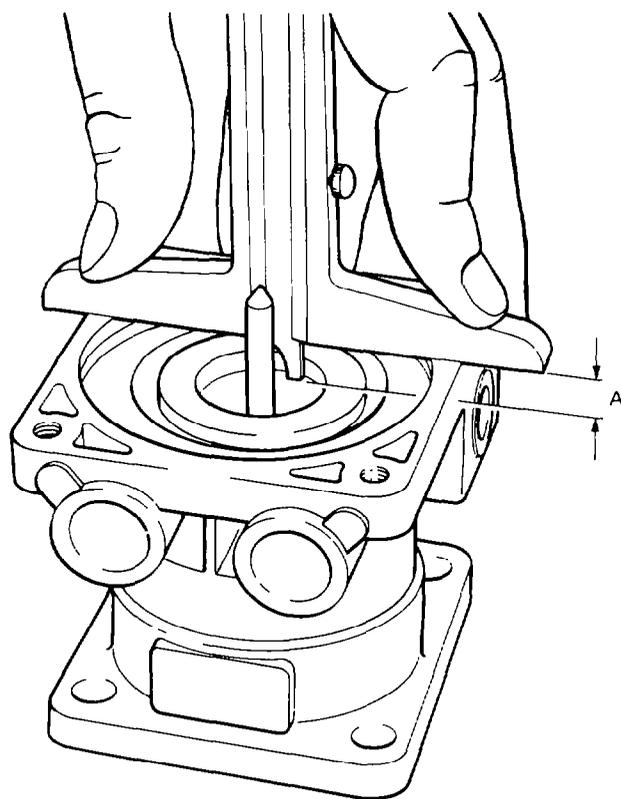

Figure 108 Dimension — Stop to Seal Cup
139. Assembly. Assemble the footbrake valve as follows (see Fig 108):
- e. Locate the upper cover (2) on the upper body; turn the assembly through 180° so that the upper body is standing on the upper cover.
- (1) Use a vernier depth gauge to measure the distance between the stop on the upper body and the seal cup in the valve piston (A in Fig 108); e.g. 10.5 mm.